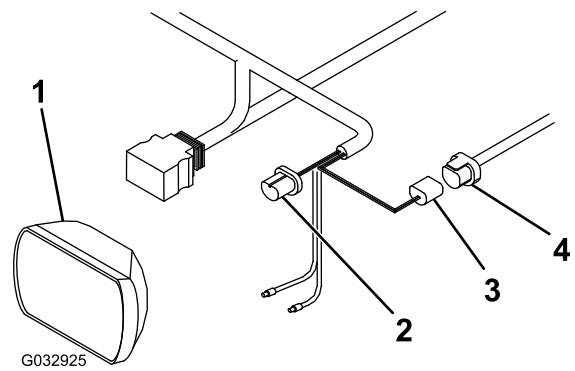

Figure 14
1. Disconnect the wire harness plug from the back of the left vehicle headlight (Figure 14).
2. Connect the blue plug from the long wire harness to the back of the left vehicle headlight (Figure 14).
3. Connect the black plug from the long wire harness to the previously disconnected plug on the vehicle wire harness (Figure 14).